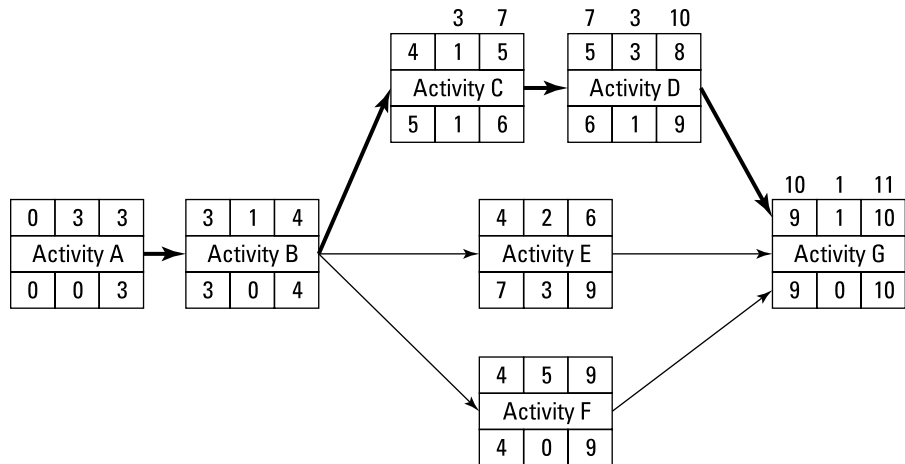

FIGURE 6-11:
Your first reaction may be that there is no overall impact, because there is a week of float on C and also on the following activity, D, so these will offset the two-week delay. However, if you look at the calculations on the top of the boxes in Figure 6-11, you'll find they tell a rather different story, and the project has been extended by one week.
The reason for the project delay is that Activities C and D are in an uninterrupted chain (no dependency arrows between C and D going out to other activities or coming in) and the one-week float on each of these two activities is actually the same week. So, of the two-week delay, one week has been absorbed by the float and the other week has pushed the project out by a week. Because of this change in C and D, that chain has now become the longest one in that part of the project, so the critical path moves as shown by the heavy arrows in Figure 6-11. If you recalculate the diagram on the backwards pass you find that Activity F, which used to be on the critical path, now has one week of float. Nip back to the section 'Understanding Float and Its Impact' if you need a reminder on doing the backwards pass.
- **Total float:** The total amount of time by which a scheduled activity may be delayed without delaying the project end date or a schedule constraint. So in Figure 6-11, Activity C has a week of total float because it can be delayed for that long without affecting the overall project. That is the float that you enter in the bottom-middle box.